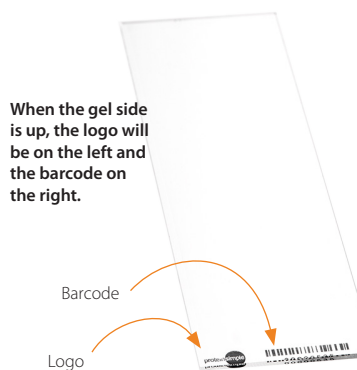

Figure 1. scWest gel orientation.
2. Remove the correct number of scWest chips from the canister and lay them each in a separate, pristine 10 cm Petri dish with the gel facing up. If the logo is on the left and the barcode on the right, the gel is facing up (**Figure 1**). Be careful not to touch the gel surface of the chips or introduce any dust or debris. Wash gloved hands before handling scWest chips.